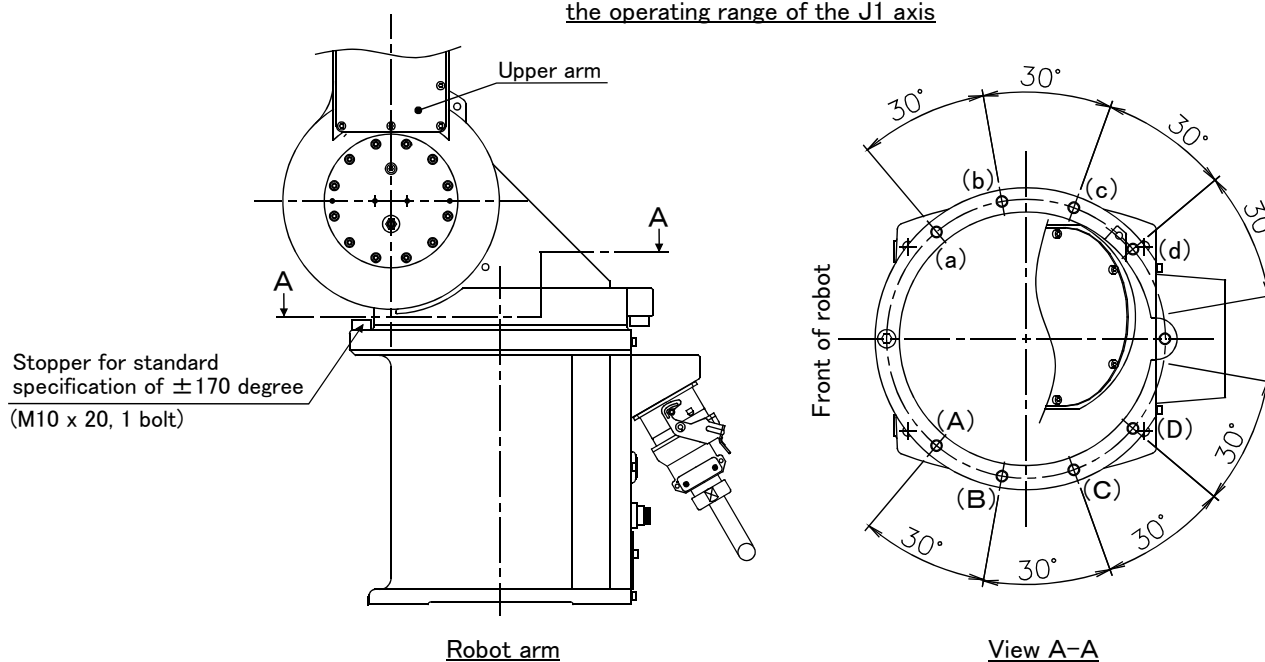

Fig.3-6 : Installation of operating range change option
Note) The insertion position given in the table indicates the insertion position for the operating range change stopper. (Refer to Fig. 3-6.)
- 1) Move the upper arm to the posture as shown in Fig. 3-6 by jog operation.
- 3) By referring to Table 3-2 and Fig. 3-6, insert the two stoppers (M10 x 20) used to change the movement range of J1 axis at the angular position to be changed, and fix securely by applying a clamping torque of 70 to 86 N · m.
CAUTION Do not remove the stopper for the standard specification of ± 170 degree shown in Fig. 3-6.